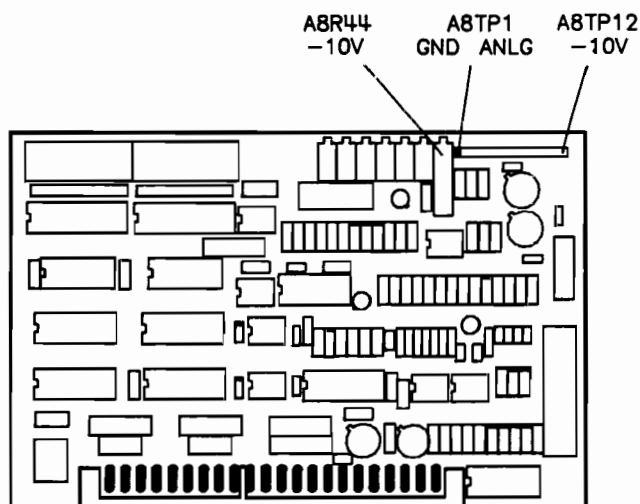

Figure 5-1. -10V Reference Adjustment Location
2. Adjust A8R44 (-10V) for a DVM reading of -10 ± 0.001 VDC. Refer to Figure 5-1 for -10 volt reference adjustment location.